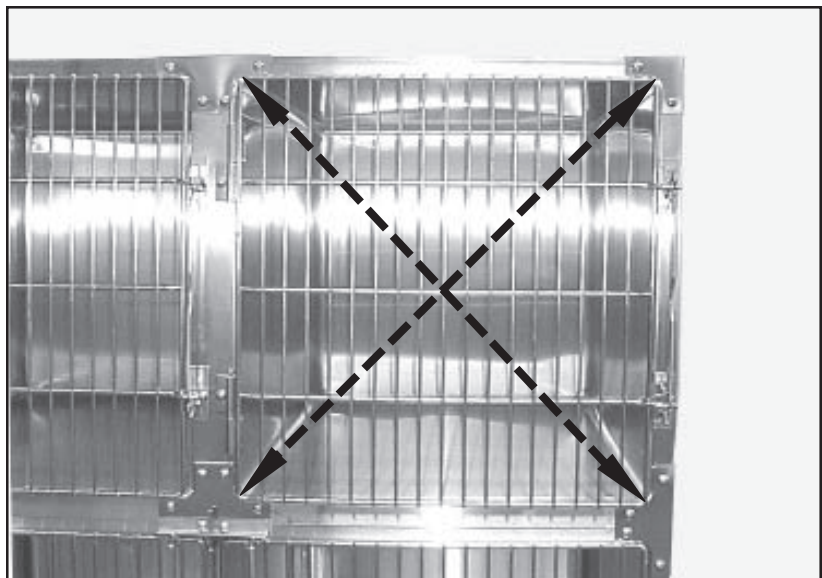

Figure 66. Measuring the Door for Deformation
1. Measure the door diagonally from upper-right to lower-left and record the measurement (Figure 66). Then, measure it again from upper-left to lower-right and record that measurement. .